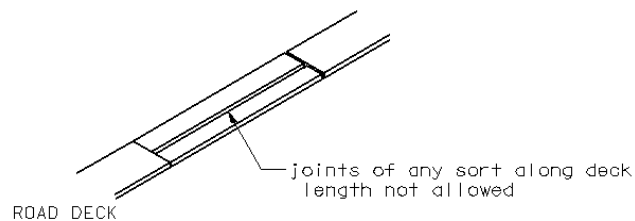

Figure 2: Joints Along Road Deck
- ◆ The solid road deck shall have **no** gaps or joints running along the *length* of the bridge (see Figure 2).